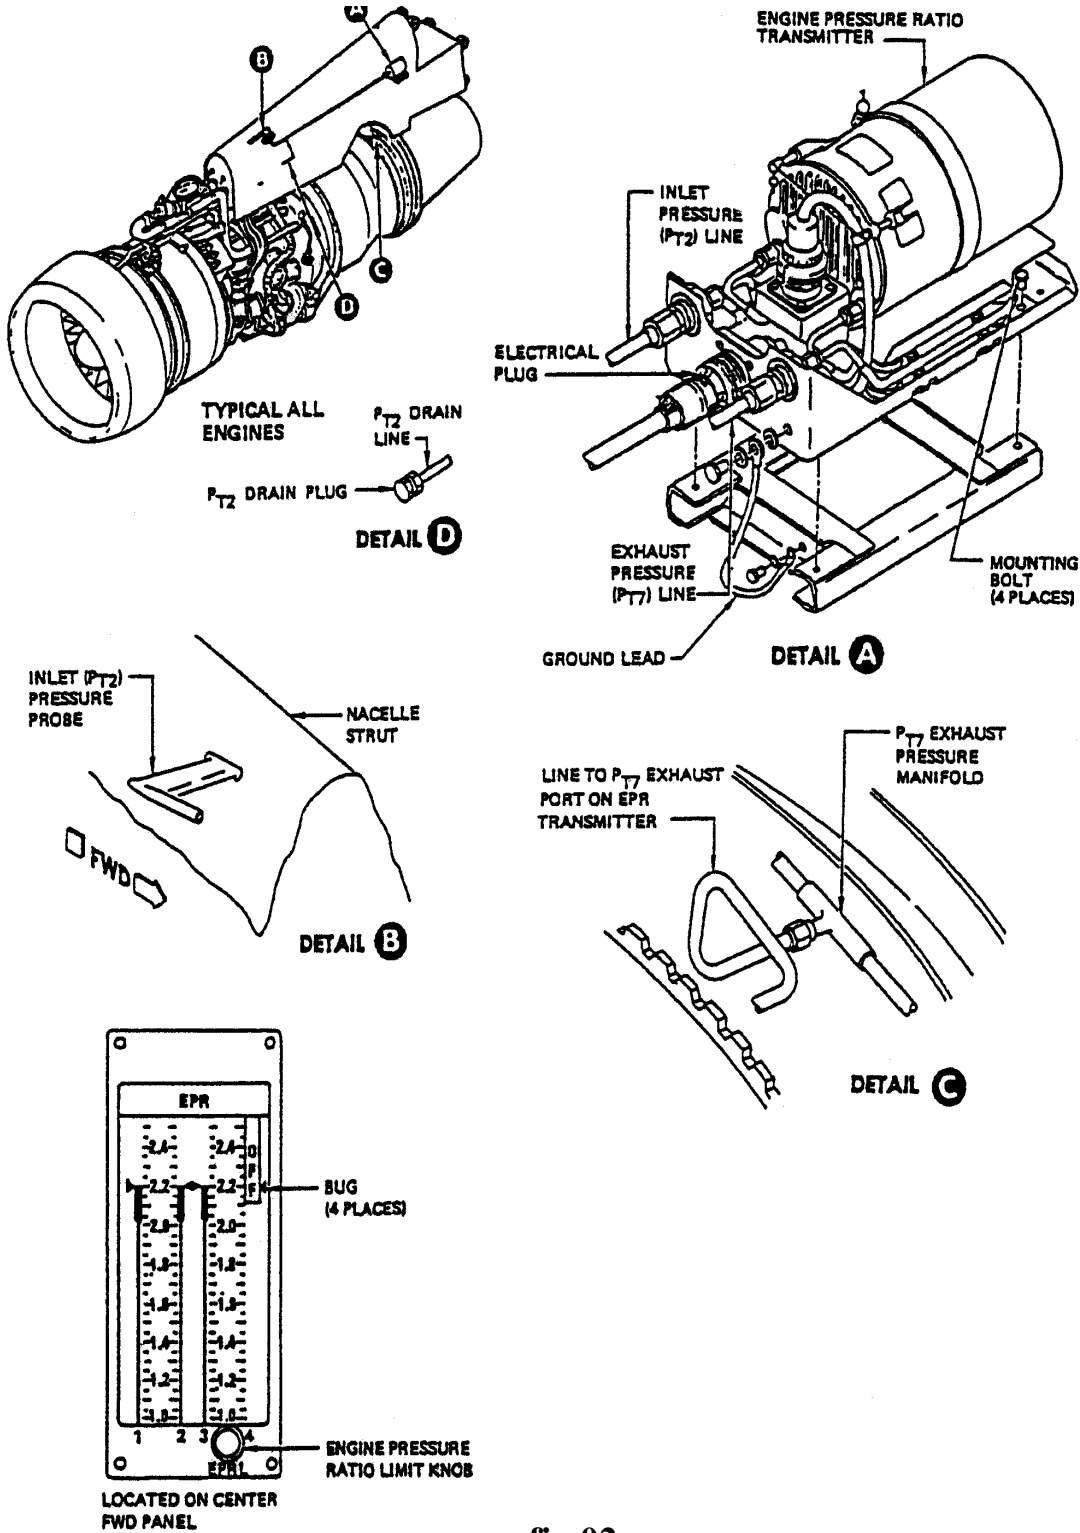

fig 02
- a) Install EPR tester between Pt2 & Pt7, (see fig 02).